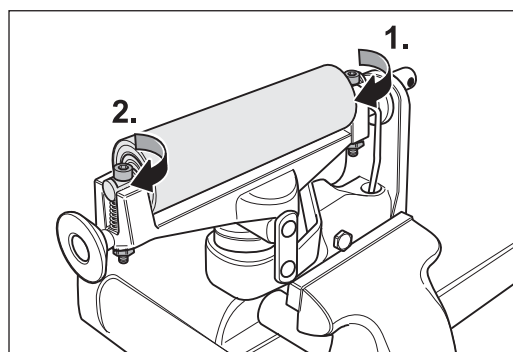
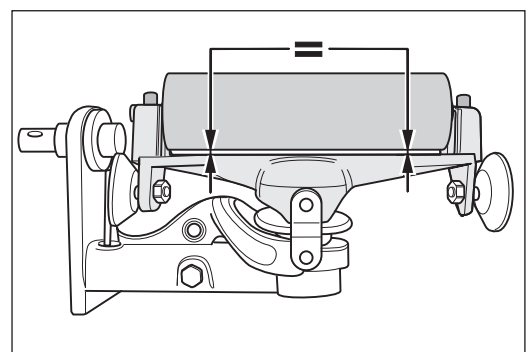

Fig. 53 Tighten the side without spring (1) and then the side with spring (2), so that ...
Fig. 54 ... the tensioning roller is positioned parallel to the top of the drive unit.
- 7 Tighten the screw of the unsprung bearing pedestal side (Fig. 53, 1.).
- 8 Turn the screw on the sprung side of the tensioning roller (Fig. 53, 2.) far enough so that the tensioning roller is positioned parallel to the upper part of the drive unit (Fig. 54).